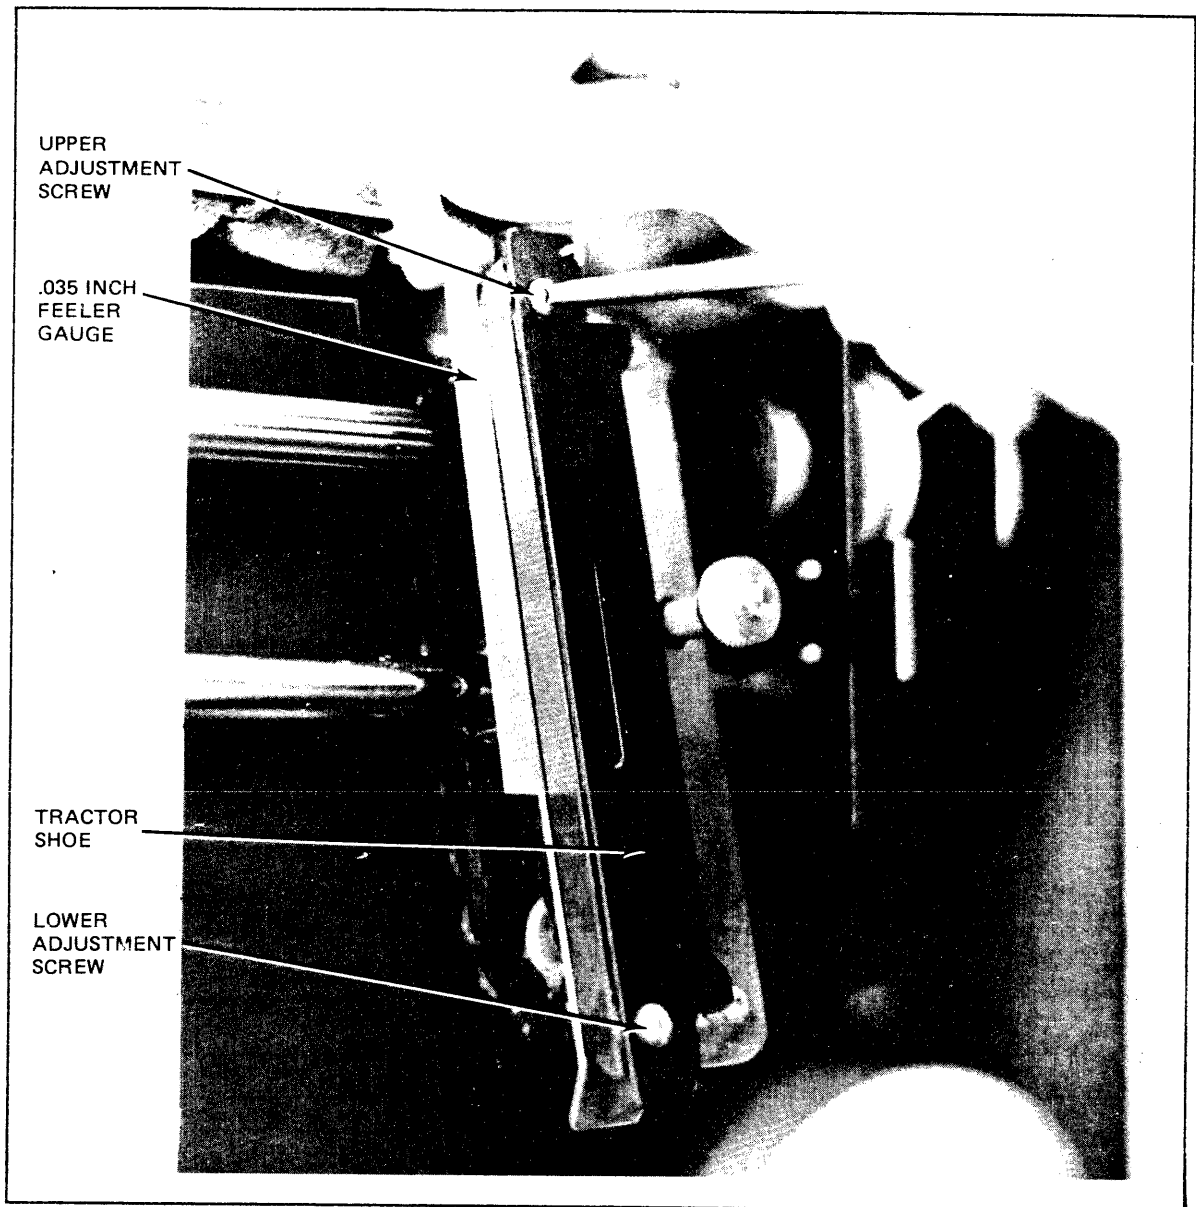

Figure 65 Adjusting Tractor Shoe
- b. Adjust the Nylon screw at each end of tractor gate (figure 65) clockwise to increase the gap, or counterclockwise to decrease the gap. Adjust both screws so that the gap is 0.035 in.  $\pm$ 0.005 in. at both ends of the tractor shoe. *Be careful* not to overtighten – and break – nylon screws.